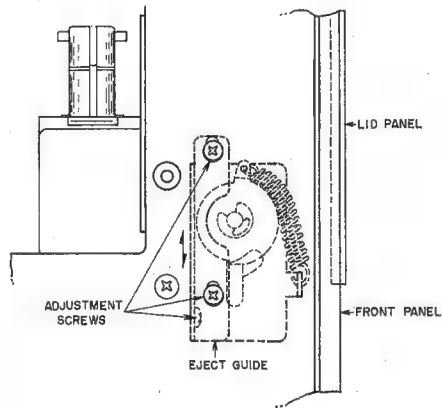

Fig. 9 Left Side of the Deck
7. LID PANEL POSITION ADJUSTMENT (Refer to Fig. 9)
In case the lid panel is not parallel with the front panel, adjust by shifting the eject guide as indicated by the arrow mark in Fig. 9. If the upper part of the lid panel is tilted inward, move the eject guide upward, and if tilted outward, move the eject guide downwards.